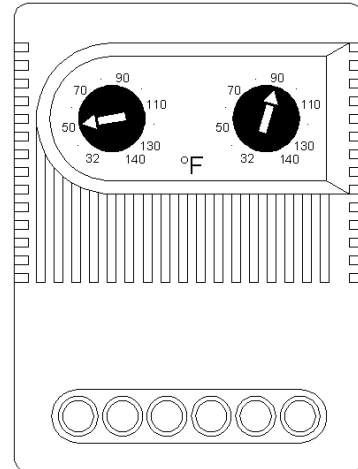

Figure 7 – Temperature control settings.
Step 21 – Set the dual range thermostat to the desired temperature range by rotating the heater control (red dial) and fan control (blue dial) to the desired temperatures (ref. *Figure 7*). The dials can be set to any temperature between 32°F and 140°F. To rotate the dials, insert the tip of a small straight head screwdriver into the slot located in the center of the dial. Rotate the dial so that the arrow is pointing to the desired temperature.